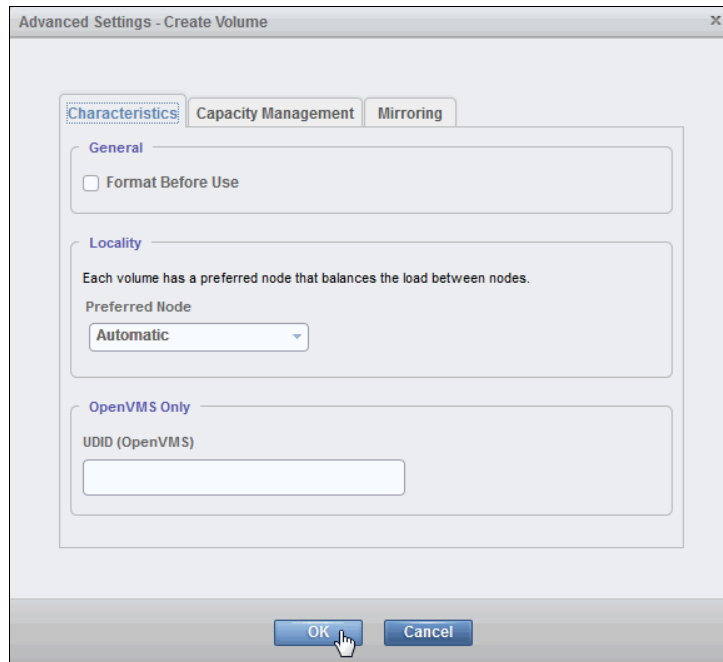

Figure 3-75 Advanced Settings pane
2. After the advanced settings are configured, click **OK** to return to the Create Volumes pane. Figure 3-75 shows the Advanced Settings pane.